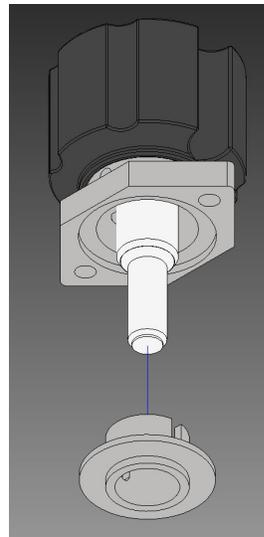

FIGURE F. 5. - BUSHING REMOVAL
5. Remove seal retaining bushing (see Figure F.5.)